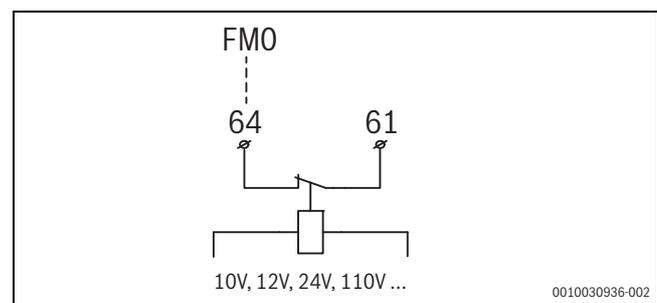

Fig. 34 Connection for external booster heater without 230 V alarm output
- ▶ Connect alarm signal as shown in Fig. 34 to the installer module at terminal **FMO**.